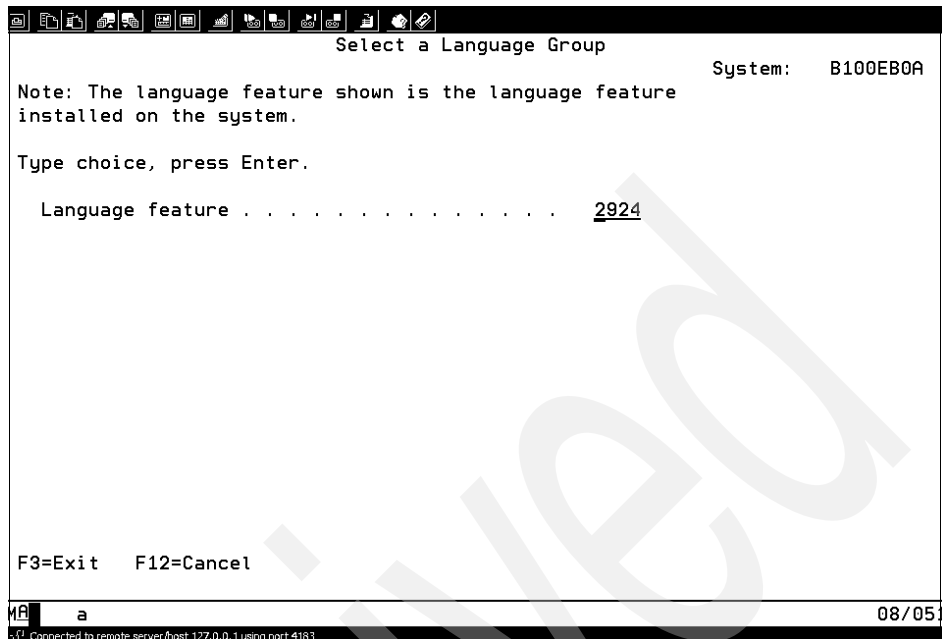

Figure 7-61 Select language feature
3. The Select a Language Group panel displays the primary language preselection, as shown in Figure 7-61 on page 299. This value should match the Language feature number that is printed in the installation media.